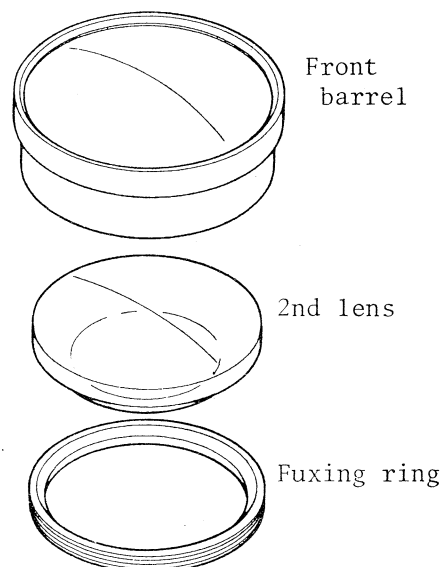

Fig.9
- 1) Remove NO.2 lens element from front barrel and NO.3 lens element from middle barrel as shown in Fig. 9 and 10 respectively.